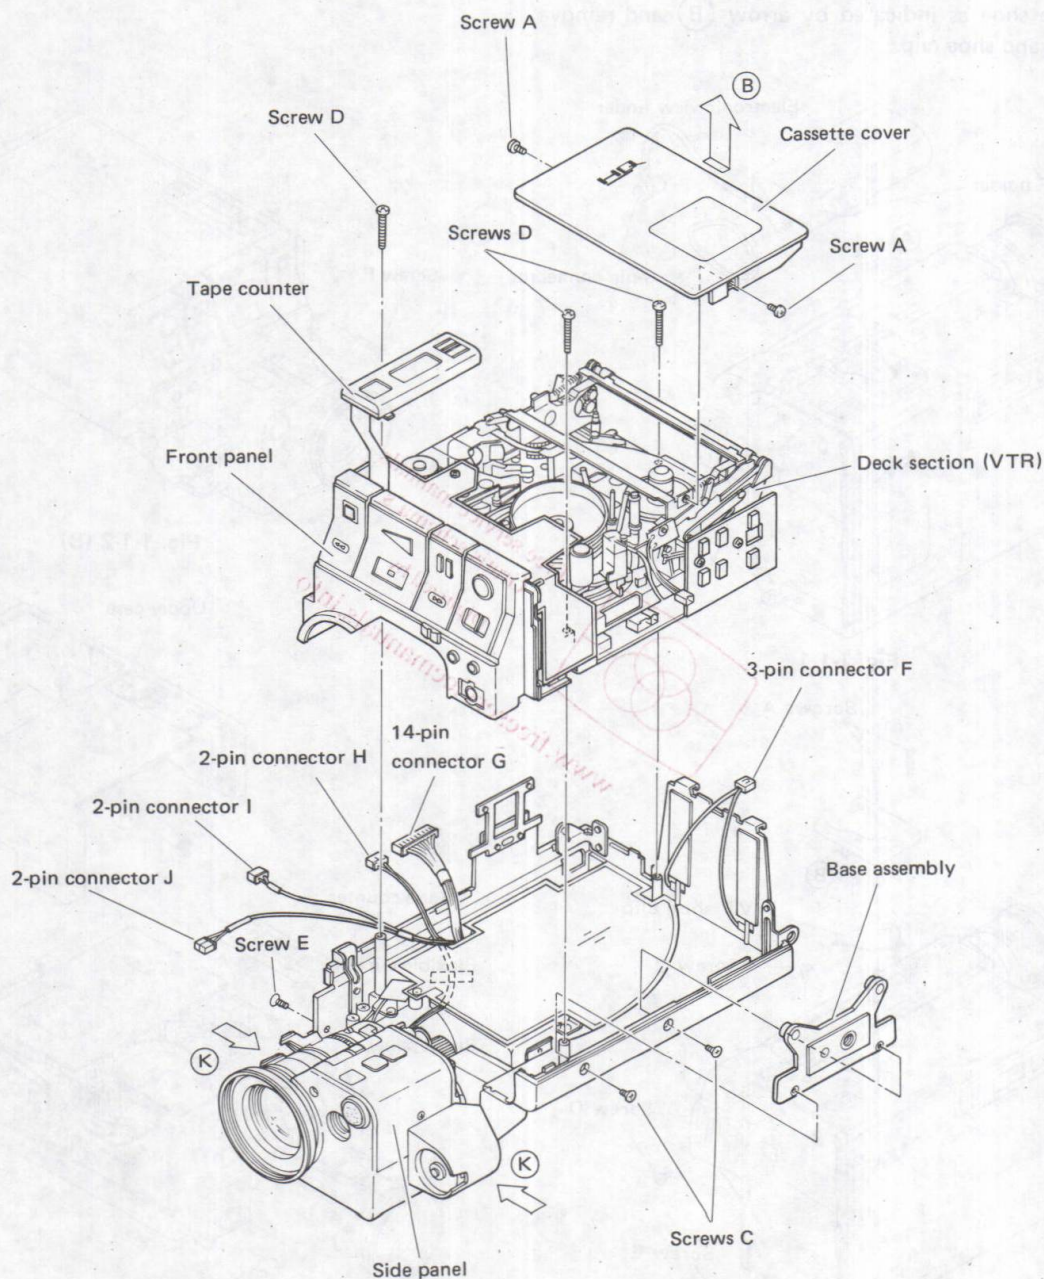

Fig. 1-1-3
1. Refer to Fig. 1-1-3 and take out two screws A that secure the cassette cover. Raise the cassette cover as indicated by the arrow (B) to remove it.
4. The front panel and side panel are engaged by a plastic rim. Carefully squeeze the portions of the side panel indicated by the arrows (K) between thumb and forefinger and raise the deck section slightly to disengage it.